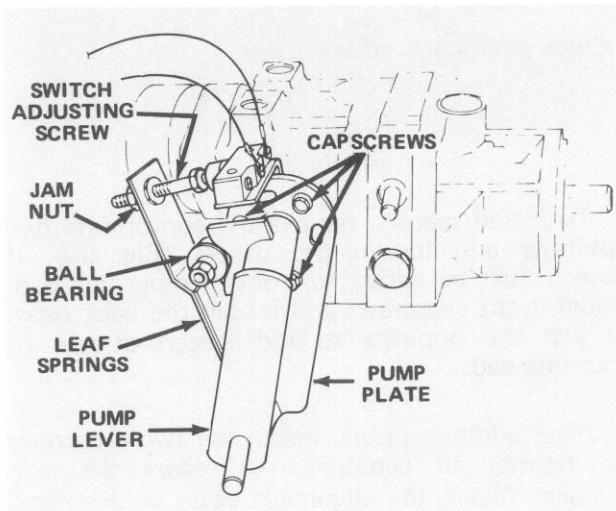

Figure 46
1. Park vehicle on a level surface and turn engine off. Apply the parking brake, tip seat forward and actuate pump lever (Fig. 46) to assure assembly is properly seated and operating freely. Correct any discrepancy.
6. Because the wheel is rotating, the pump plate must be adjusted. But before adjusting the pump plate, move throttle to SLOW. If wheel is rotating forward, loosen capscrews and lightly tap bottom of pump plate counterclockwise (Fig. 46). By contrast, tap pump plate clockwise if wheel is rotating backward (Fig. 46). When wheel stops rotating, tighten capscrews holding pump plate against side of transmission. Verify the adjustment with throttle in SLOW and FAST position.
- Ball bearing is loose or worn out (Fig. 46).
- Weak or damaged leaf springs (Fig. 46). Replace.
2. Actuate the pump lever (Fig. 46) to ensure all parts are operating freely and seated properly.
3. Loosen jam nut. Rotate switch adjusting screw (Fig. 46) until there is a gap between head of screw and switch button.